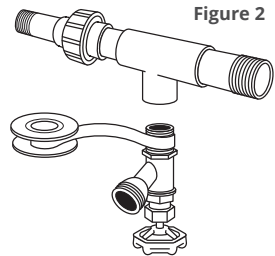

Figure 2
2. Wrap the 1/2" male drain end 2-3 times with plumber's tape (Figure 2).